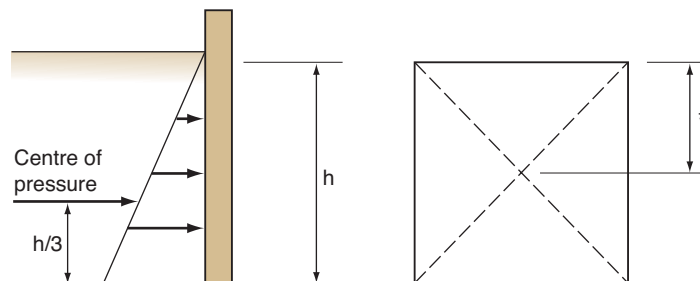

Figure 5.58 Pressure and force acting on a submerged surface
A typical example of the thrust on an immersed plane surface would be the force acting on a hatch or gate in a river or reservoir, as shown in Figure 5.58. The distance from the free surface to the centroid of the area is \bar{y} and the distance to the centre of pressure from the base is $\frac{h}{3}$. The wetted area (A) is $B \times h$ (where B is the breadth).
In Figure 5.58, it is evident that the centre of pressure will not be at the centroid of the submerged surface. In fact, for rectangular shapes, it will be one-third of the distance from the base to the surface of the fluid.